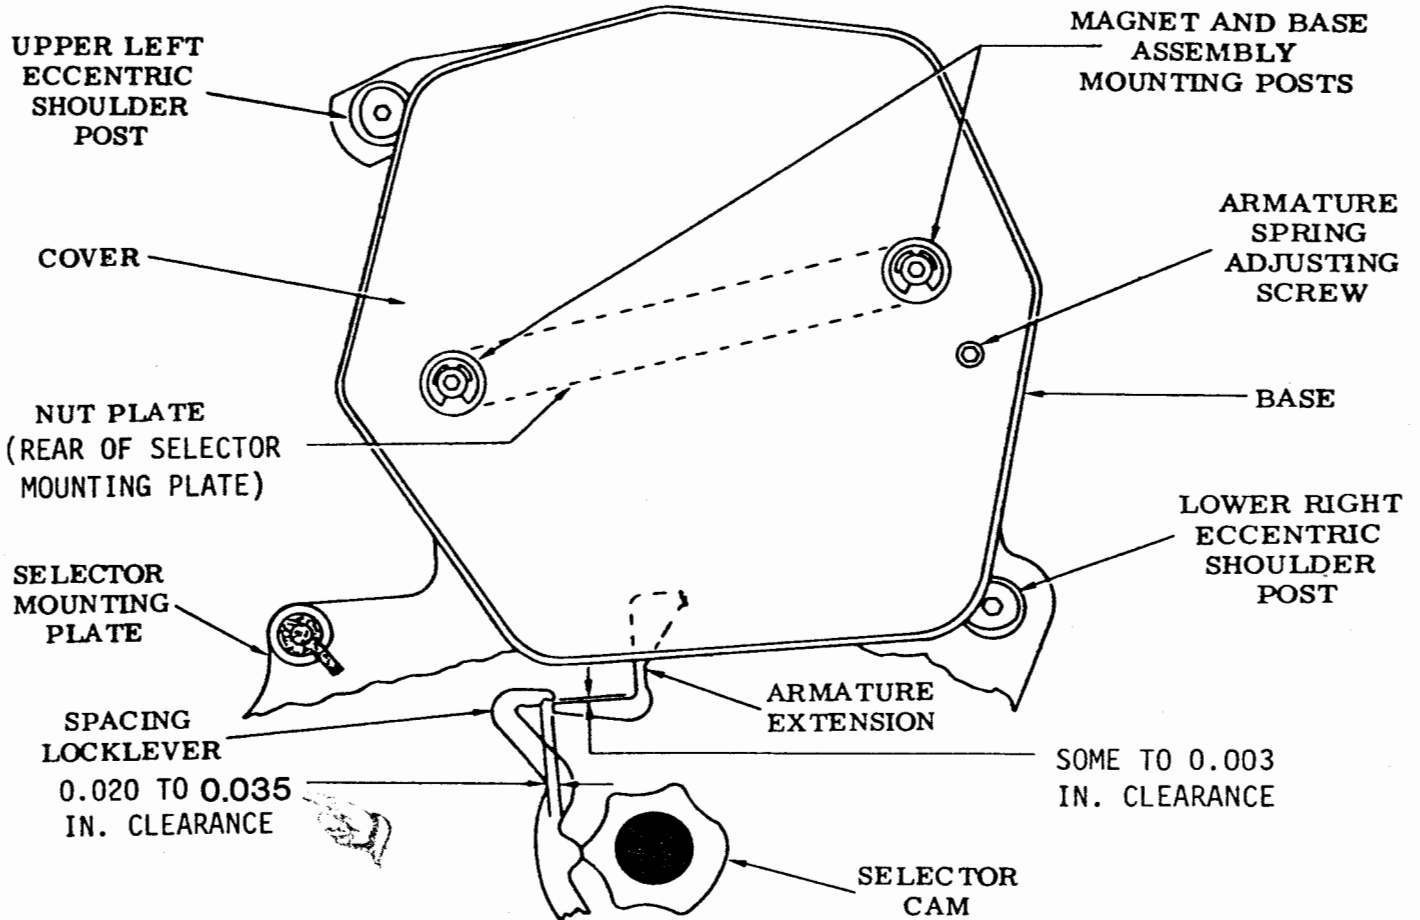

Figure 6-100. Selector Base (Magnets Energized)
(1) Refer to figure 6-100.
(2) Position spacing lock-lever on high part of cam.
(3) Place armature in contact with left pole piece.
(4) Measure clearance between end of armature extension and shoulder of spacing locklever. Clearance should be between 0.020 and 0.035 inch.
(5) Measure clearance between upper surface of armature extension and upper step of spacing locklever with locklever held downward. There should be some clearance not exceeding 0.003 inch.
(6) If either clearance exceeds specified limits, use a 1/16-inch hex wrench to loosen two magnet and base mounting posts to point of friction tightness.
(7) Adjust lower lower right eccentric to obtain specified clearance between end